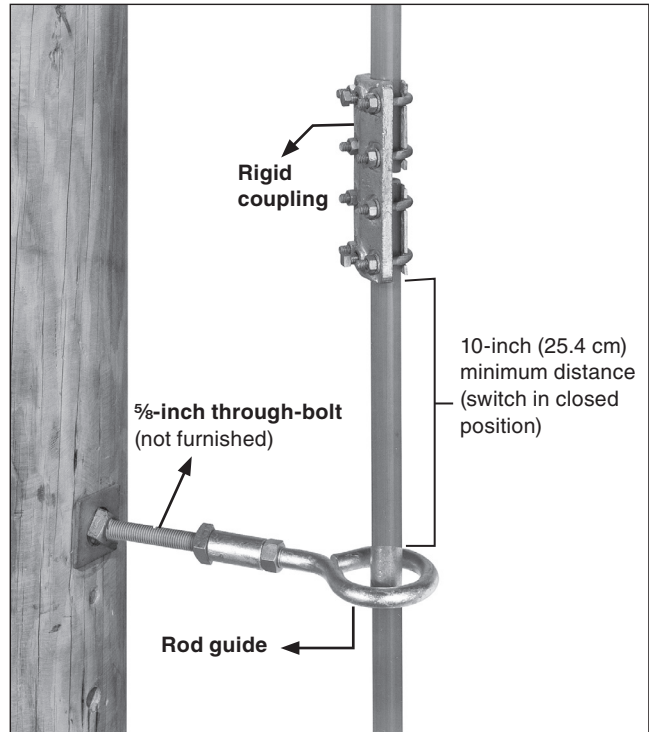

**Figure 10.** The operating-handle assembly.
- STEP 14.** Use the vertical operating pipe as a plumb line to locate the operating handle radially to the pole (see Section D-D on the erection drawing). Then, drill 1¼-inch (17-mm) diameter holes and mount the handle, using ¼-inch threaded rod or through-bolts (not furnished). At the same time, use one of the operating-handle mounting bolts to attach one end of the grounding strap (the end with the grounding connector attached) to the handle mounting plate. See Figure 10.●
- (a) Move the operating handle to its mid position to take the strain off the operating-pipe linkage. Secure the handle in that position by inserting a  $\frac{3}{8}$ -inch bolt or metal pin into the hole provided. See Figure 10 on page 13.
- (a) Move the operating handle to its mid-position to take the strain off the operating-pipe linkage. Secure the handle in that position by inserting a  $\frac{3}{8}$ -inch bolt or metal pin into the hole provided. See Figure 10 on page 13.
**With a key interlock:** A Superior Key Interlock (or equivalent), if supplied with the interrupter switch, will be mounted on the operating handle (see Figure 10 on page 13). One of the two slots in the operating handle will be blocked to provide either a locked-open or locked-closed arrangement.